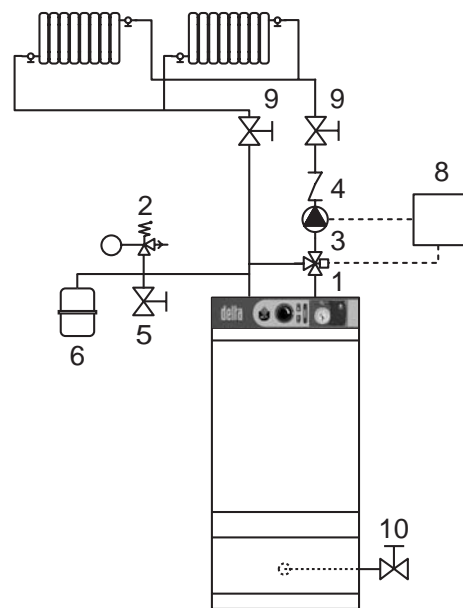

Fig. 3: Hydraulic diagram with motorised mixer valve
8. ACV 13 controller (see controller kit on page 5) (fig. 3)